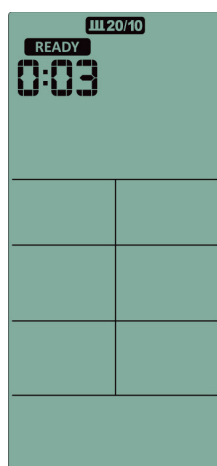

Figure 29
- Press the INTERVAL 20/10 button to enter this mode **III 20/10** (Figure 29).